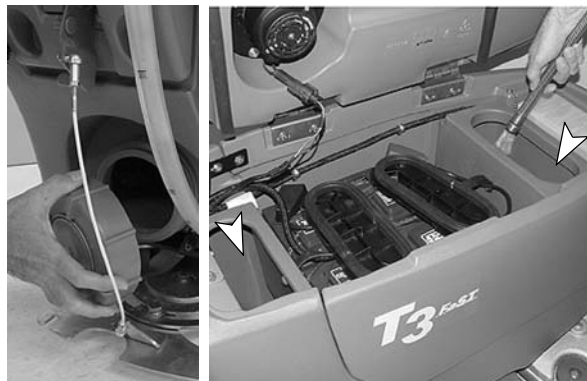

FIG. 32
2. To rinse out the solution tank, remove the clean-out cap at the rear of the machine and spray water, 60°C (140°F) maximum, directly into the two fill-ports located under the recovery tank (Figure 32).